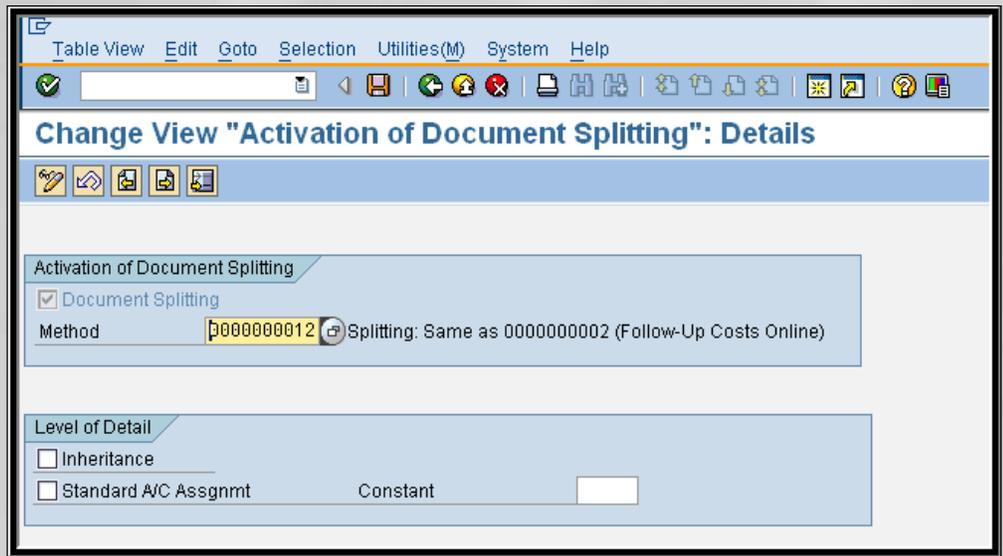

Figure 5: Assigning a Document Splitting Method (Default Method Shown)
- Assign Document Splitting Method – In this step, you’ll assign a splitting method of your choice, assuming that you want to use something other than the SAP default one of “0000000012”. If this is the case, you can assign your own splitting method provided that you created one in the “Define Document Splitting Method” configuration step. See Figure 5 for an illustration.